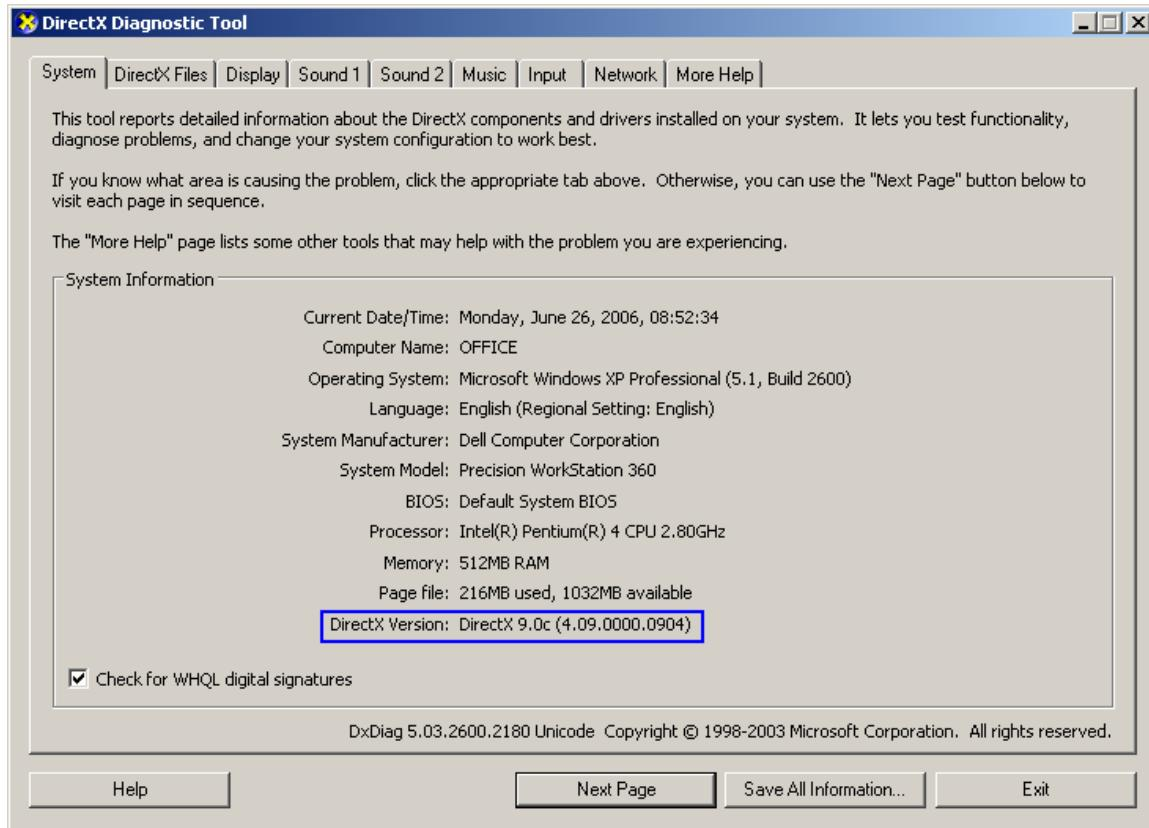

Figure 3-6. Version of DirectX Installed on the Display PC
- Check whether DirectX version 9.0c is installed on your computer. To check out the version of DirectX installed, from the DOS prompt type “dxdiag” or search for the “dxdiag.exe” file in the {windows}\system32 directory and click on it. This will bring up a “DirectX Diagnostic Tool” dialog box (see Figure 3-6). If an older version of DirectX was installed on your computer, the user should download the latest version from <http://www.microsoft.com/windows/directx/default.mspx>.